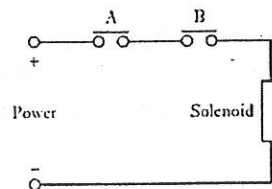

Figure 1
8. Write the ladder program for the given circuit in figure 1.